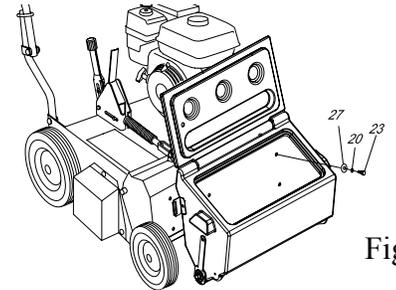

Fig. 1
5. Install seeder box to front of machine with four 5/16" x 3/4 cap screws, 4 flat washers, and 4 lock washers. Do not tighten at this time (see figure 1).